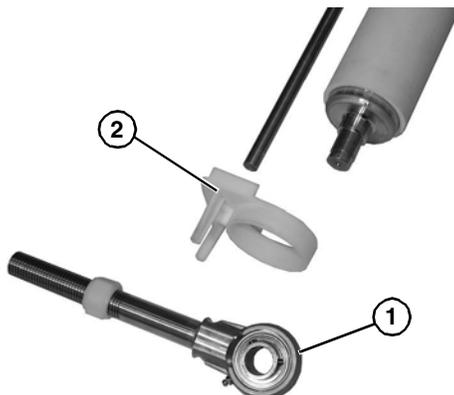

Figure 73
5. Remove the bearing shafts (**Figure 73, item 1**) and both pinch guards (**Figure 73, item 2**).